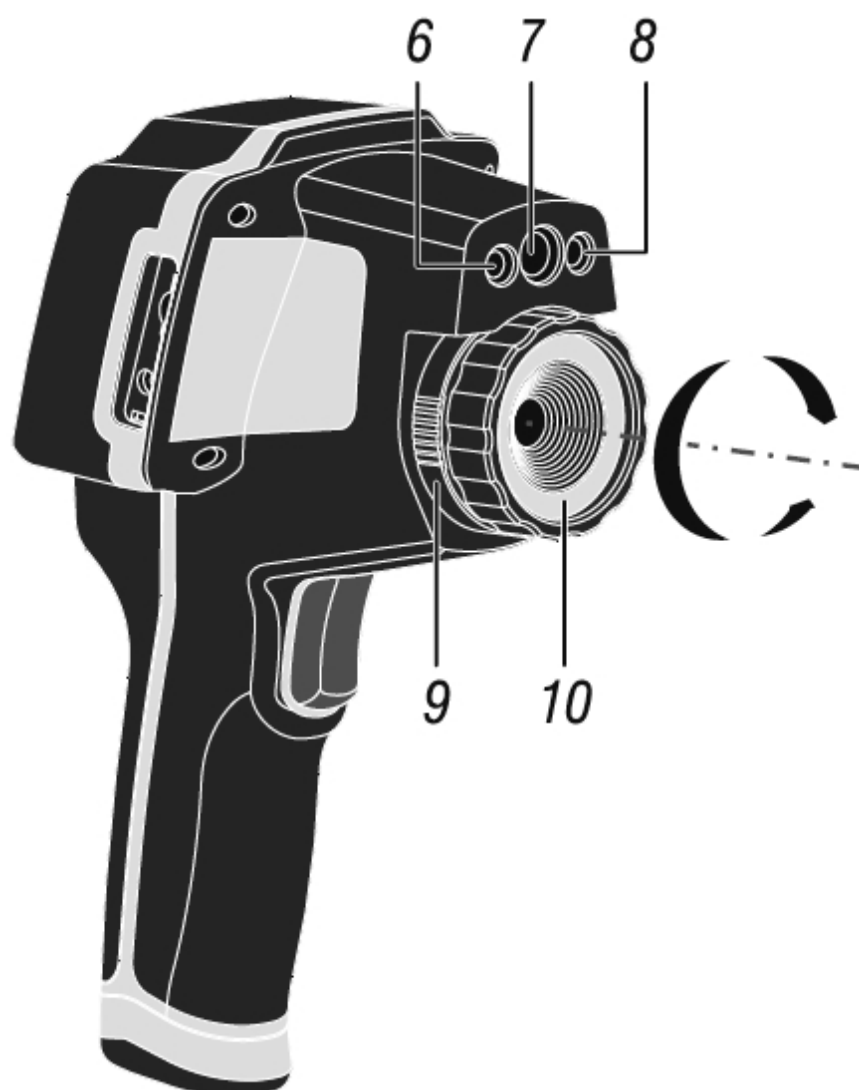

Fig. 2: Description of the instruments front side
1. Rotate the lens locking/releasing mechanism (see Fig. 2 – part 9) in counterclockwise from “” position to “” position
4. Rotate the lens locking/releasing mechanism (see Fig. 2 – part 9) in clockwise from “” position to “” position